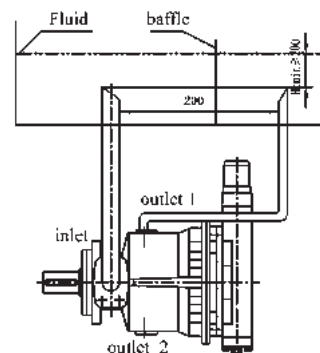

Fig. 5
b) Mounting below the reservoir Pipe ports "outlet 1" and "inlet" according to Fig.5, close port "outlet 2"